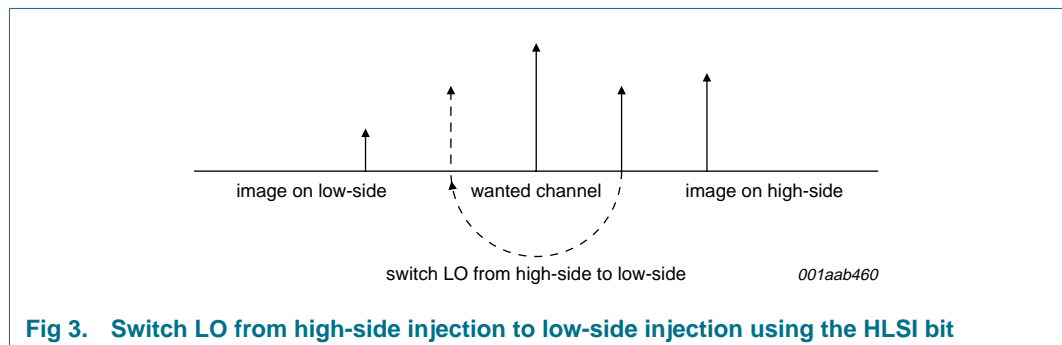

Fig 3. Switch LO from high-side injection to low-side injection using the AHLSI bit
The channel quality can sometimes be improved in case of image frequency interference. This can be achieved if the Local Oscillator (LO) injection is positioned at the opposite side of the wanted channel (see Figure 3). Indication for image frequency interference can be derived from the IF frequency counter. To enable this feature the AHLSI bit must be set to logic 1.